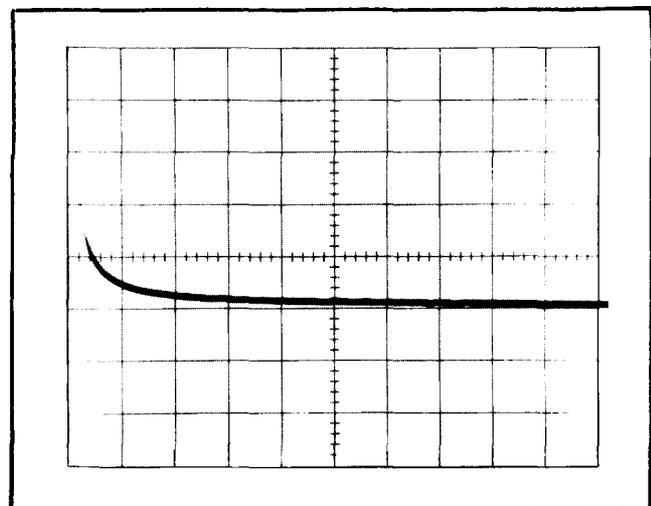

Fig. 5-12. Typical waveform showing overdrive recovery time.
j. CHECK—The waveform as the Reed Pulse Generator Man switch is released. Readjust the Time Base Level-Slope as necessary for proper triggering. The trace should return to within 5 mV of the reference (1 division below the graticule center) within 10 μ s (5 divisions). See Fig. 5-12 for photograph of typical recovery waveform.